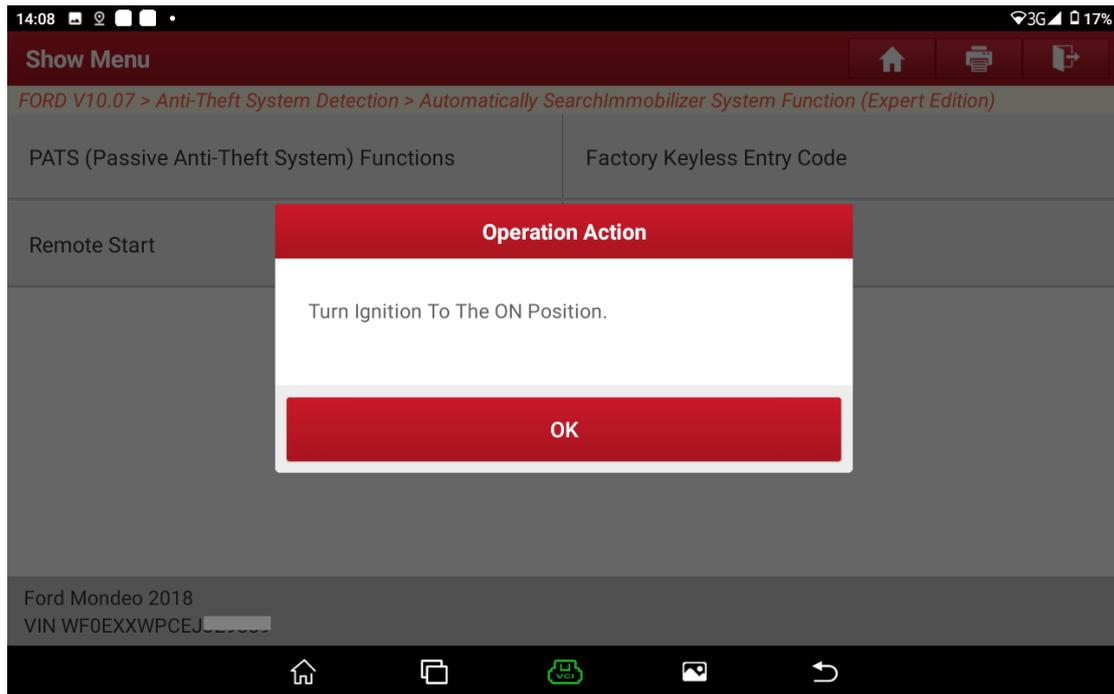

Figure A8
6. Prompt to turn on the ignition switch. See Figure A8.